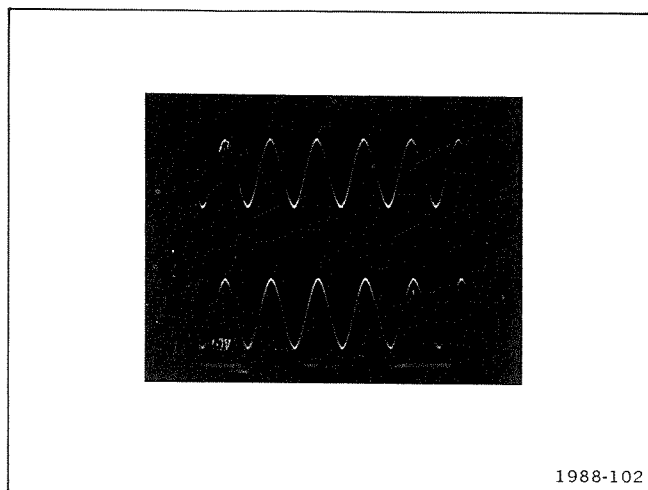

Figure 4-4. Typical waveforms on C1216 and C1217 with the line voltage set to about 20 V.
5. Check for an ac waveform on the test oscilloscope (see Fig. 4-4). Note the amount of dc the waveform is offset. Move the probe tip to the other capacitor screw. Check for an ac waveform which is both offset an equal amount of dc, and is opposite in polarity, from the previous waveform. (This checks the condition of the line storage capacitors.)